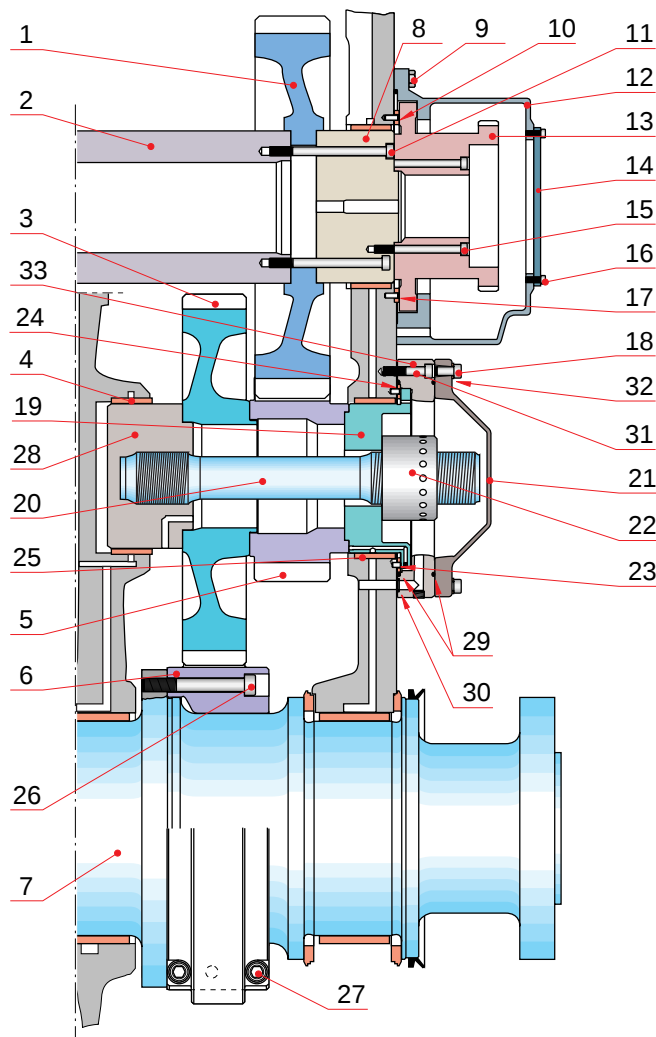

Fig 13-2
7 Unscrew the cover fastening screws (18). Remove intermediate gear wheel cover (21) and outer O-ring (29), see Fig 13-2.